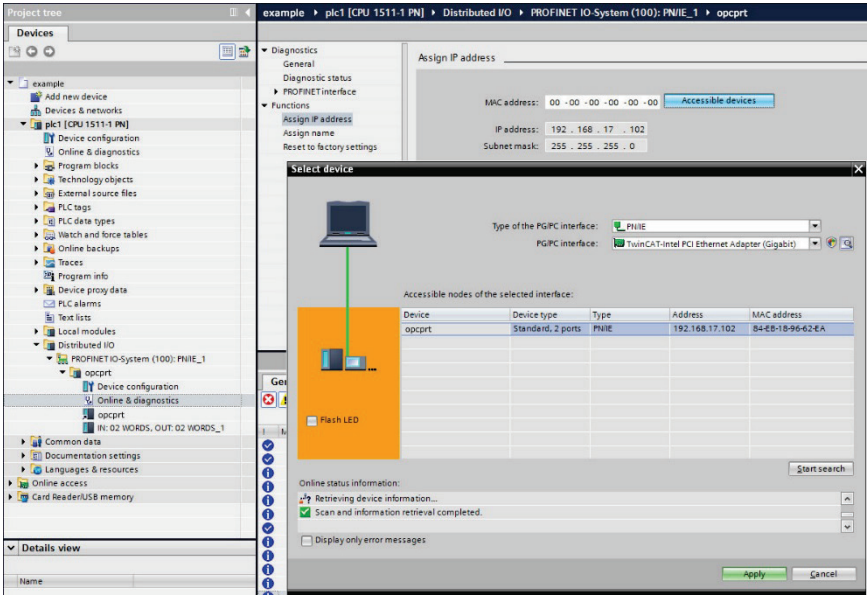

Figure 99: Discover PROFINET Devices on the Network
In the **Project tree**, expand **plc1...Distributed I/O...PROFINET IO-System (100):PN/IE_1**. Expand the device and double-click **Online & diagnostics**. In the next panel, expand **Functions** and select the **Assign IP address** node. Click the **Accessible devices** button. Select the appropriate **PG/PC interface** and click the **Start search** button to discover and display the PROFINET devices on the network as shown in Figure 99. Select the device and click the **Apply** button.